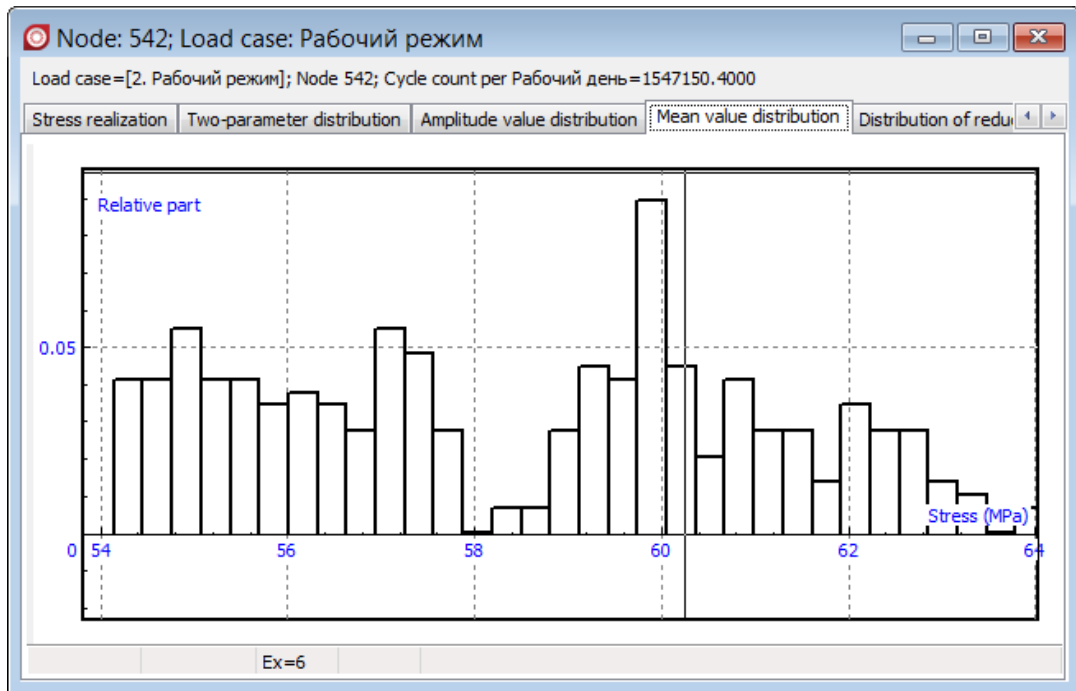

Figure 2.41. Reduced amplitudes distribution
- To plot the distributions click the  button. New graph window with plots of data appears, see Figure 2.41.